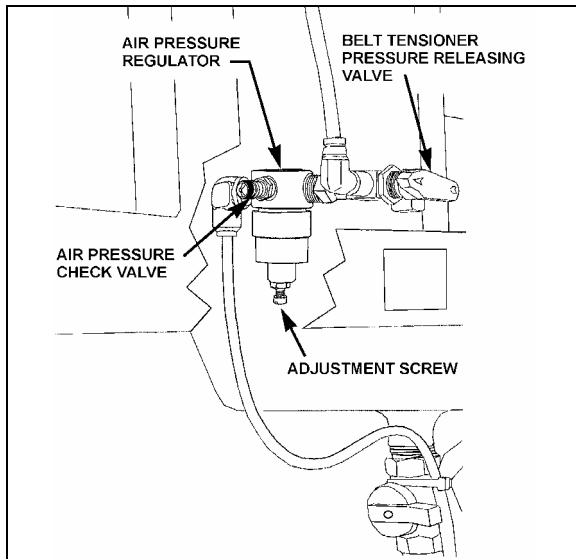

FIGURE 18: AIR PRESSURE REGULATOR 12200
1. Open engine compartment rear doors and locate the belt tensioner pressure releasing valve (Fig. 18), mounted above the engine R.H. side door next to the air pressure regulator, then turn handle clockwise in
3. Reset belt tensioner pressure releasing valve (Fig. 18) to 50 psi (345 kPa) to apply tension on the new belts as explained in Section 12.